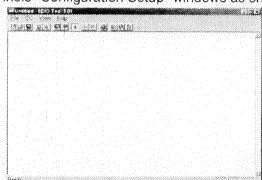
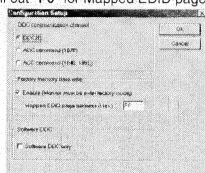

Fig. 11
Fig. 12
1. Click icon as shown in Fig. 11 from the tool bar to bring up the Channels "Configuration Setup" windows as shown in Fig. 12.
2. Select the DDC2B as the communication channel. Select **"Enable"** & fill out **"F0"** for Mapped EDID page address as shown in Fig. 12.